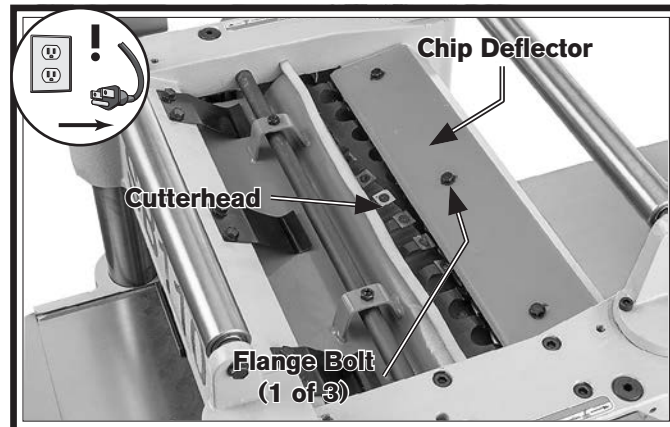

Figure 59. Location of chip deflector and mounting hardware.
3. Use cutterhead pulley to rotate cutterhead until an insert reaches closest distance to chip deflector (see **Figure 59**), then measure distance between insert and chip deflector.